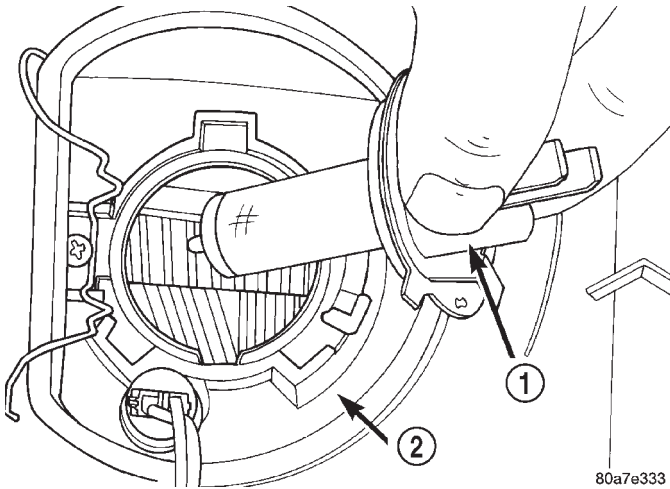

Fig. 3 Headlamp Bulb
- (6) Loosen headlamp bulb retaining ring screw from headlamp module (Fig. 3).
- (7) Remove the headlamp bulb from headlamp module (Fig. 3).